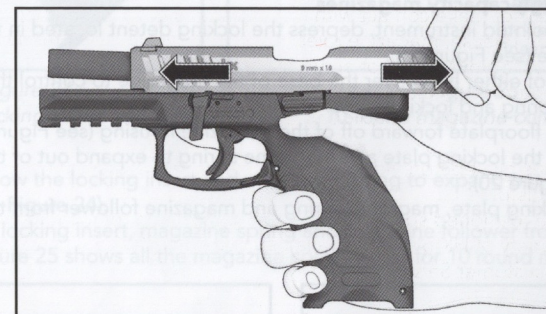

Figure 15 — Removing slide from frame by pushing it forward
3. Push the slide forward, removing the slide from the top of the frame (see Figure 15).